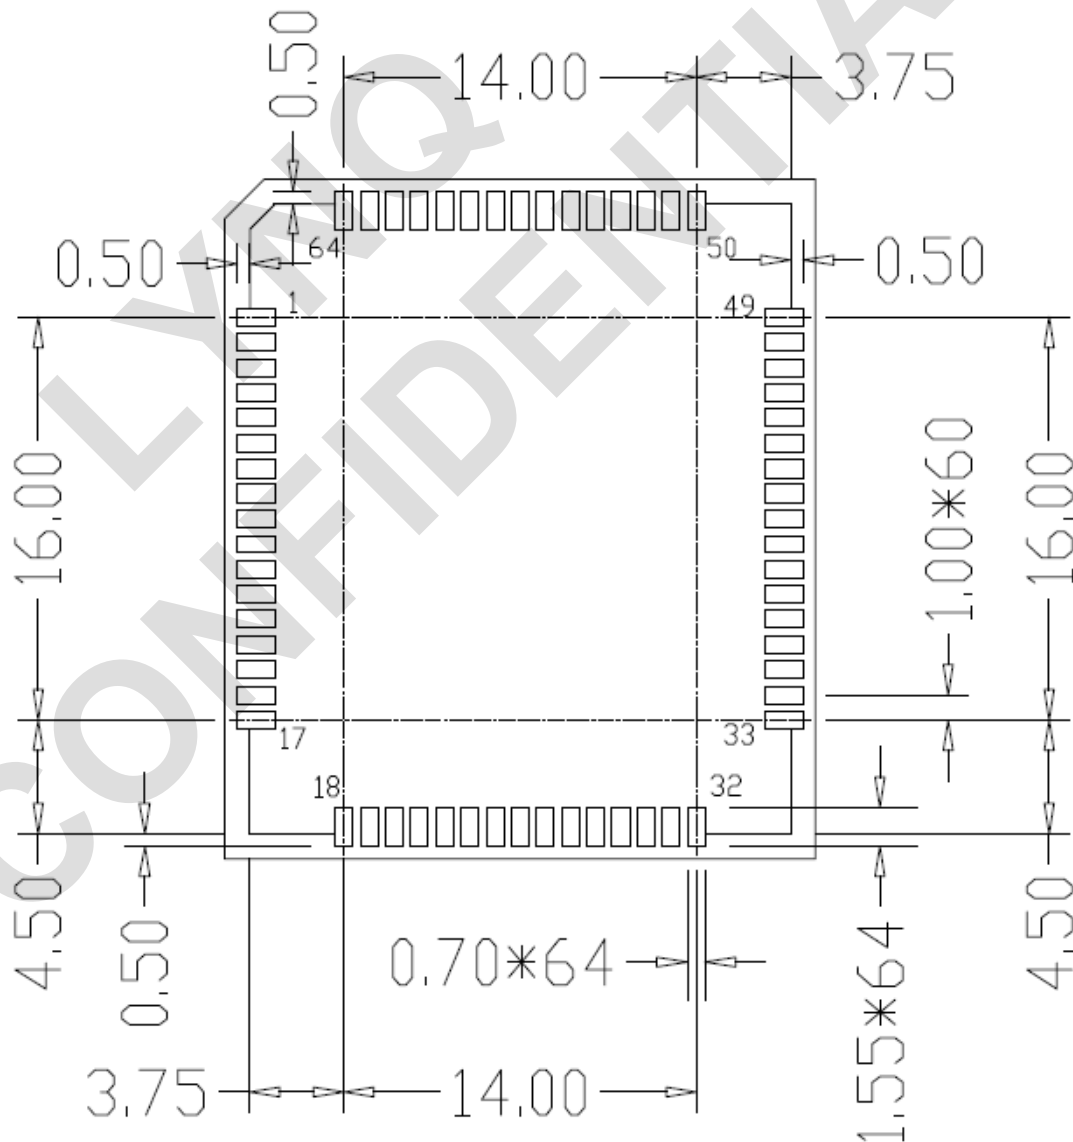

Figure 6-1 Steel mesh (unit mm)(detail A)
- Module pad thermal welded steel mesh openings are recommended for reference. Figure 6-1 is recommended for steel mesh and size.